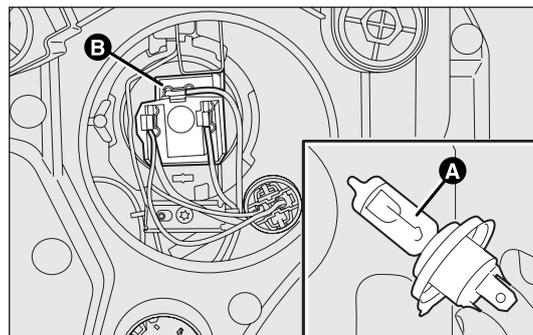

fig. 162
- disconnect the central electric connector B-fig. 162 and release the bulb holder catch;